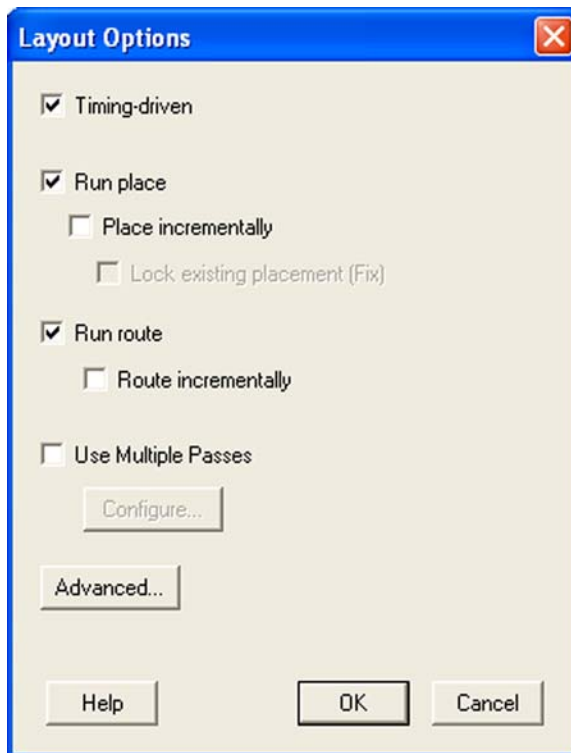

Figure 5-45. Layout Options Dialog Box
11. In Designer, click **Layout**. This opens the Layout Options dialog box, shown in Figure 5-45.